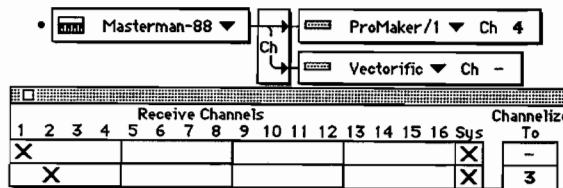

Figure 6-22: First Channel Splitter Example
- Example 1: Look at Figure 6-22. Notice that the top of the Channel Splitter receives data on MIDI Channel 1. It is not channelized, so it exits the Splitter module on MIDI Channel 1. The top MIDI Destination module channelizes the MIDI data from Channel 1 to Channel 4. This means that the ProMaker/1 plays the voice assigned to MIDI Channel 4. The bottom half of the Channel Splitter module receives data on MIDI Channel 2 and channelizes it to MIDI Channel 3. The Vectorific MIDI Destination module is set to Channel “-”, meaning that data received at its input is not channelized. Therefore, the Vectorific plays the voice assigned to MIDI Channel 3.